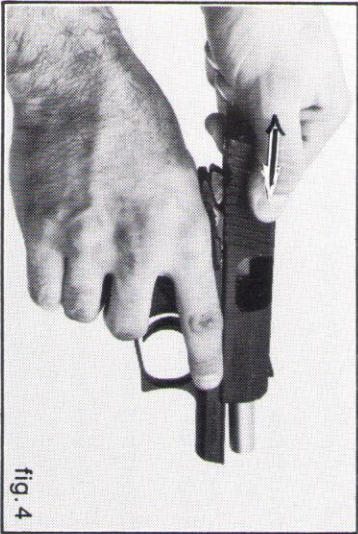

fig. 4
3. Draw the slide to the rear and check visually to ensure that the pistol is unloaded (fig. 4). Release the slide, check the indicator to be sure there is no round in the chamber.
- Check the chamber visually to make sure that it is empty (fig. 4).